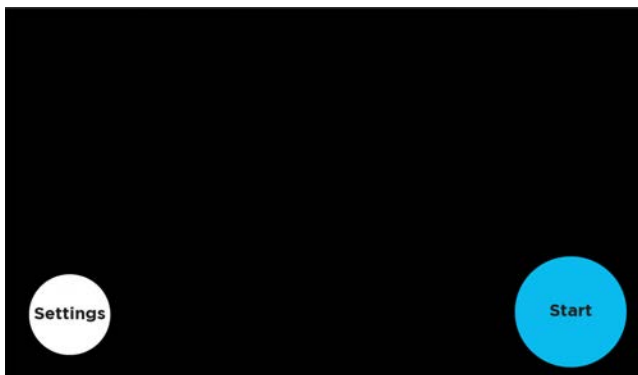

Figure 8. The home screen.
1. Touch the “Start” button on the home screen (Figure 8).